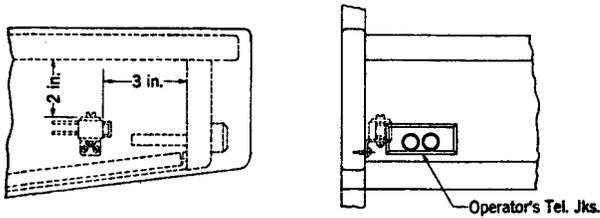

Fig. 1 - Varistor Mounted on the End Panel at the Left-Hand Side of Keyshelf
**3.02** Where the wiring to the telephone jacks enters along the left-hand side of the keyshelf, mount the varistor on the end panel of the keyshelf on the left-hand side as indicated by Fig. 1.